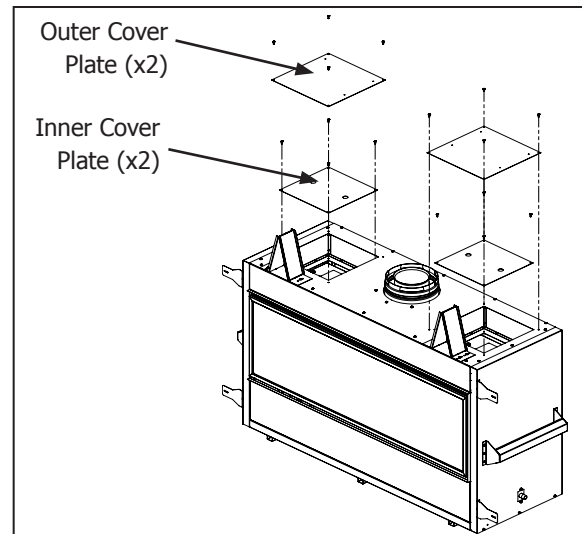

Figure 16. Cover Plate Removal
Step 1: Using a T20 screwdriver, remove the inner and outer cover plates from the fireplace as shown (Figure 16). Each cover plate has four (4) mounting screws. Both sets of cover plates are no longer required and can be recycled. Retain eight (8) of the removed mounting screws to secure the duct collars.